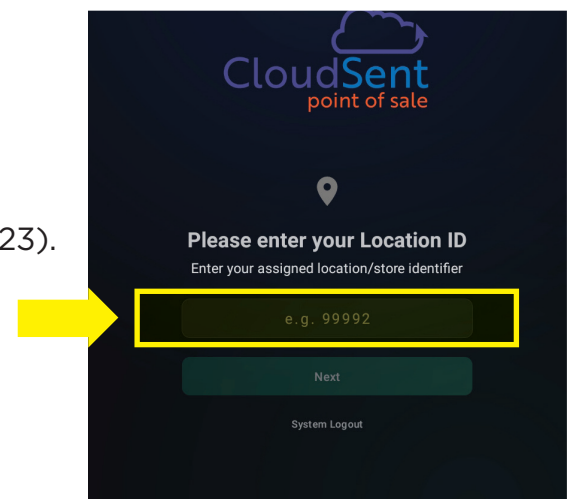

Figure 23
7. Select Change Device Location if your location information does not appear on the screen (Figure 23).